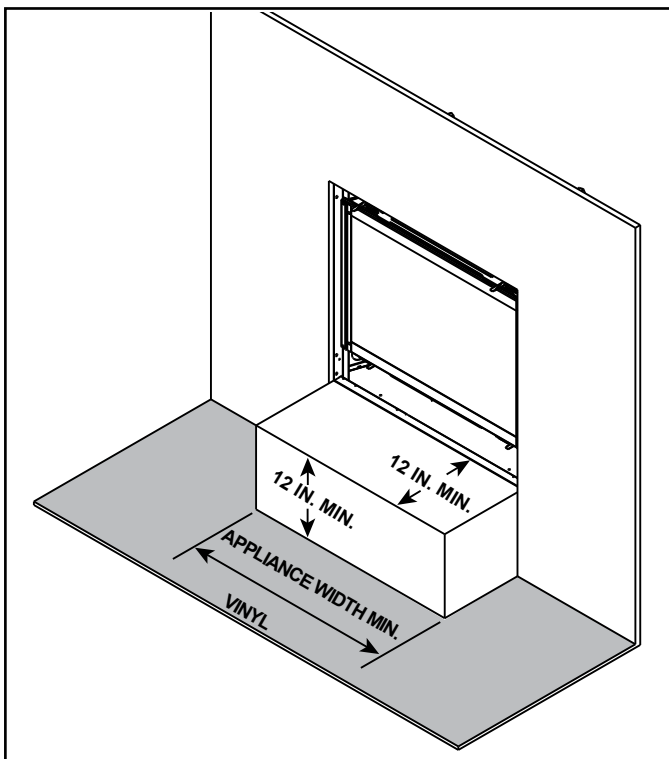

Figure 3.20 Vinyl Flooring Recommendations
- Combustible flooring may be located in front of the appliance. See Figure 3.20 for vinyl flooring recommendations.
Vinyl flooring is sensitive to heat. To avoid damage to the vinyl flooring, a 12 inch minimum x 12 inch minimum hearth is recommended when using vinyl flooring up to the wall. See Figure 3.20. If no hearth is used, it is recommended to provide a minimum of 24 inches of clearance in front of the appliance to the vinyl flooring OR the bottom of the appliance should be raised a minimum of 24 inches off the floor to allow the vinyl flooring to be installed up to the wall.